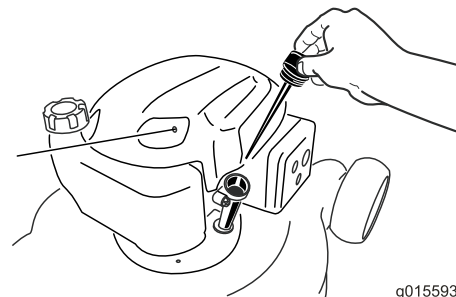

Figure 8
2. Remove the dipstick, wipe it clean, and insert it back into the oil filler tube just until it stops **but do not screw it in** (Figure 8).